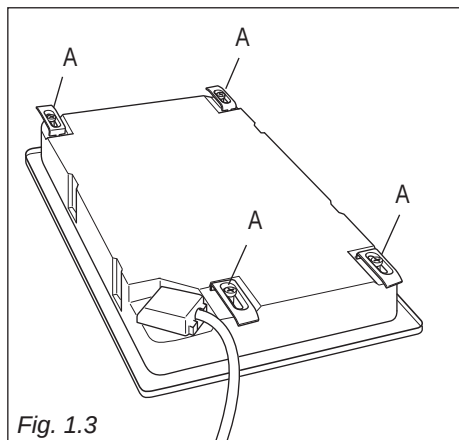

Fig. 1.3
- Turn the appliance over and put tabs "A" (fig. 1.3) into the mountings, only tighten screws "B" a few turns. Make sure that the tabs are mounted correctly as shown in the figure 1.3. Turn the tabs so that the appliance can be put into the hole.